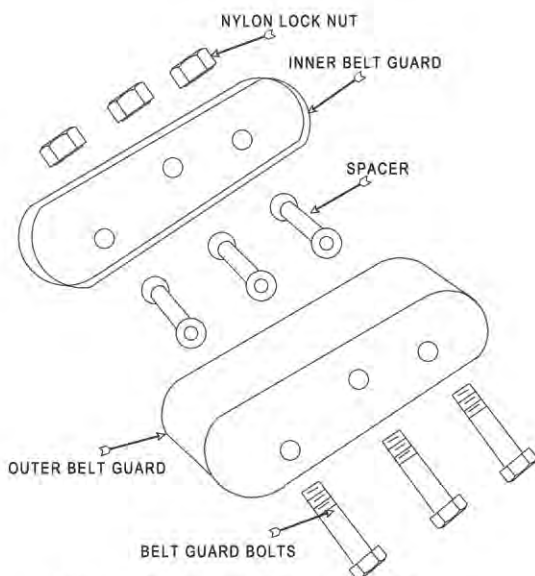

Fig.16: Belt guard and bolts assembly
- i. Remove belt guard bolts, spacers, and outer belt guard (see Figure 16)